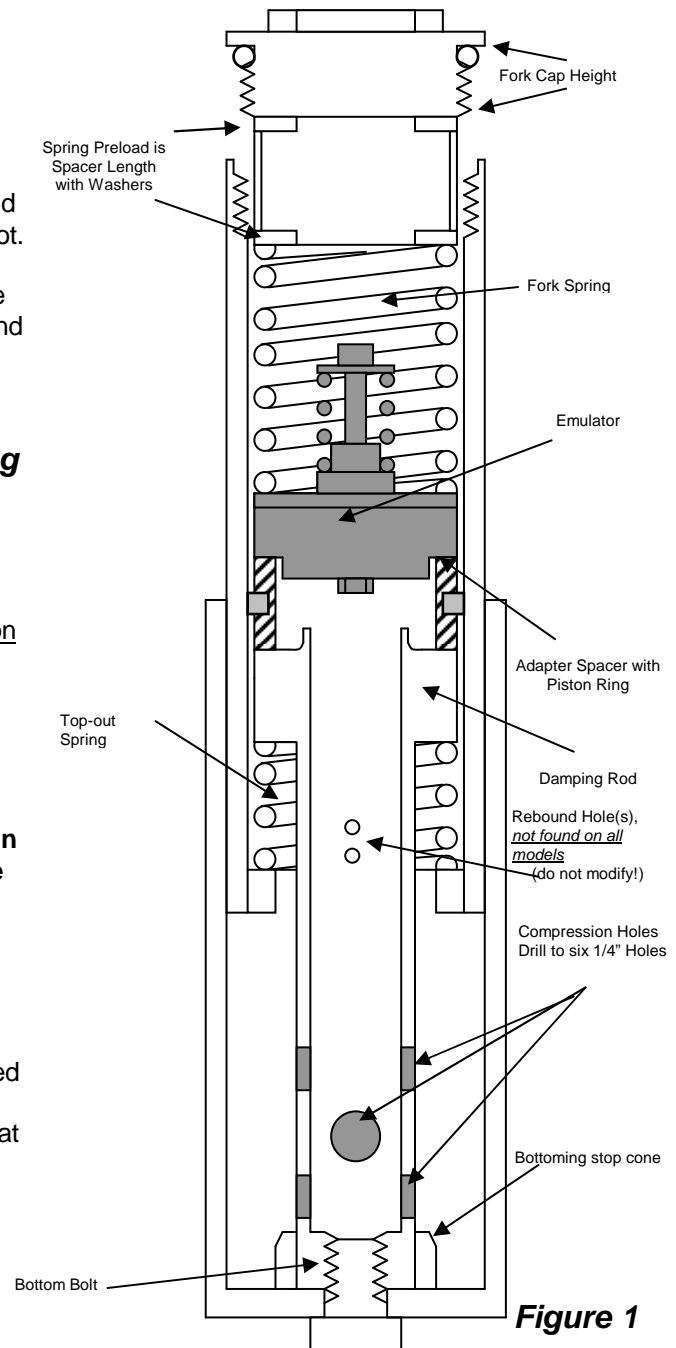

Figure 1
- 2 Drill the existing compression holes in the damping rod to 1/4 inch (6 mm) so you end up with Six holes (3 sets of 2 holes) (figure 1).** When drilling new holes, space them axially (lengthwise) at 10 mm (7/16") increments. Each set of two holes must be perpendicular to the last set so as not to weaken the rod (figure 1). After drilling, chamfer and deburr the compression holes, inside and out. Do not add or enlarge the rebound holes and leave their edges sharp.
- a. Drop the Emulator down the tube. It sits on top of the adapter spacer & damping rod with the Emulator Valve Spring facing up and is held in place with the main fork spring. Refer to figure 1. Visually check to make sure the Emulator is sitting squarely on top of the damping rod. Do NOT place washer on top of Emulator